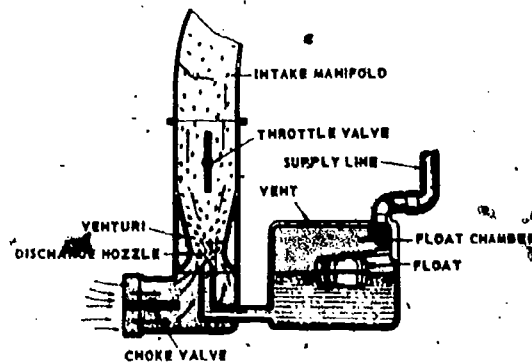
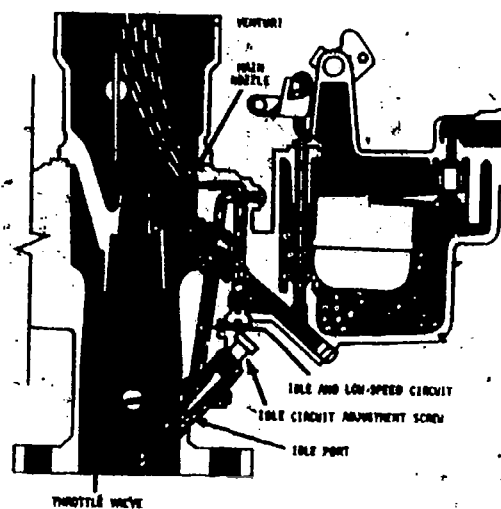

Fig 2-31. Simple carburetor.
Fig 2-32. Constant-speed, downdraft carburetor.
4. Carburetor (fig 2-31). The carburetor is that component on a gasoline engine that meters the fuel and mixes it with the air. The opening through which air enters is called the air horn. The carburetor illustrated is an updraft type so called because it is located below the intake manifold and air travels upward through the carburetor. In the air horn, you see the choke valve. The decrease in size of the air passage, or restriction, is called the venturi. This causes the air passing through it to flow with greater speed than it would without the restriction. The discharge nozzle connected to the float chamber by a fuel passage permits liquid fuel to enter the air stream. The throttle valve is located in the carburetor throat between the discharge nozzle and the intake manifold which delivers the fuel-air mixture to the individual cylinders. The choke valve allows the operator to vary the richness of the fuel-air mixture as an aid in cold-weather starting. Under normal operating conditions, the choke valve is wide open as shown in figure 2-32. When starting the
a. **Adjustment.** Most of the carburetors that you will come in contact with will be similar to the downdraft carburetor in figure 2-32. It has two carburetor circuits. An idle- and low-speed circuit, and a main nozzle for normal operation. The main nozzle is nonadjustable, but the idle circuit is provided with an external adjustment screw. The idle-speed screw is adjusted to provide the correct mixture to enable the engine to idle smoothly. TM's provide detailed instructions on adjustment of the idle screw. As a general rule, the screw is turned all the way in, then opened approximately 1 full turn. Correct adjustment is obtained by turning the screw in until the idle is rough from fuel "leanness," then turning the needle out to the richest setting at which the engine idles the smoothest. The engine idle speed may be increased or decreased for best idle speed by adjusting the throttle stop setscrew.